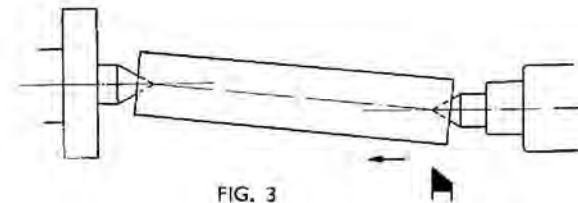

FIG. 3
(2) The method shown in fig. 3 is by off-setting the tailstock centre. The drawback is that the centre points are not on the axis of the work, so that the centres are subjected to uneven wear and strain. Thus the method is limited to slow tapers on long work.